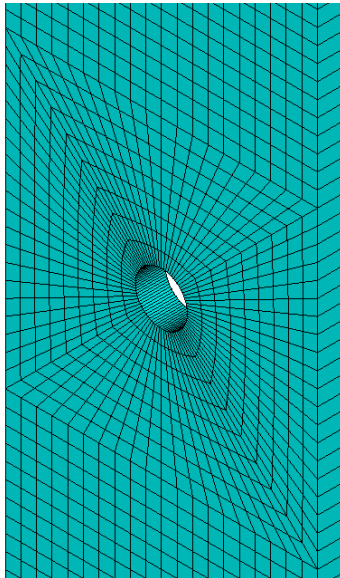

Figure 10. Plate mesh
13. Select all 8 volumes from the Graphics Window and click **OK**. The part is now meshed and should be similar to the mesh shown in Figure 10.